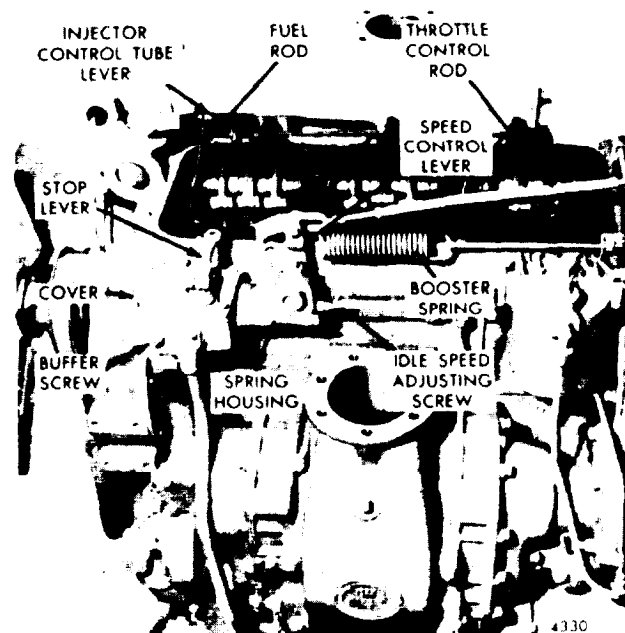

Figure 11H-5. Buffer and Idle Speed Adjusting Screw
2. Loosen the lock nut (Figure 11H-5) and back out the buffer screw approximately 5/8".
3. Loosen all the inner and outer adjusting screws (Figure 11H-4). Be sure all the injector rack control levers are free on the injector control tubes.